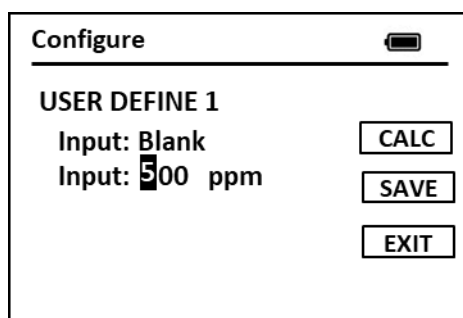

Figure 9
2. Place the vial containing the solvent blank into the HM-900 sample compartment. Press the OK key on the highlighted icon CALC to measure and accept the solvent blank as shown in figure 9.